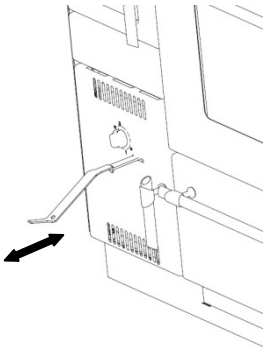

Fig. 8
3.1.3 Riddle arrangement (15)
The grate can be riddled in any height position using the riddle bar (15). When it is hot then the regulator lever can be used (Fig. 8).